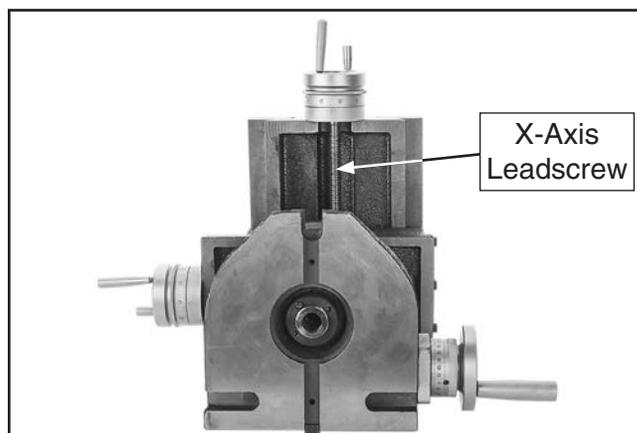

Figure 33. X-axis leadscrew exposed for cleaning and lubrication.
2. Tip cross-rotary table up to expose leadscrew (see **Figure 33**).